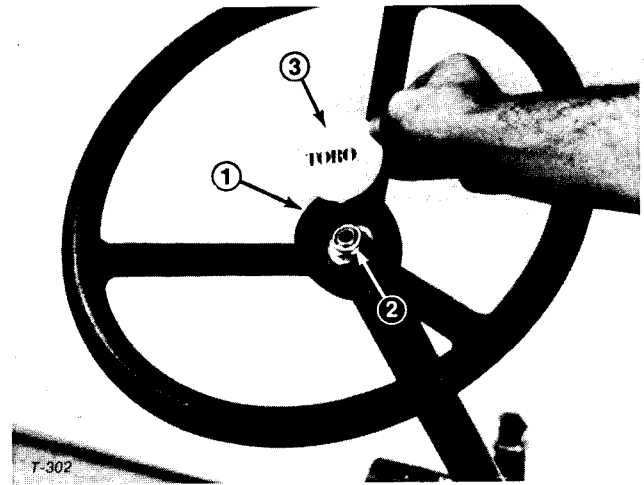

Figure 10
3. Secure the steering wheel in place with the lock nut (Fig. 10). Tighten the nut to 70 ft-lb (9.7 KgM).